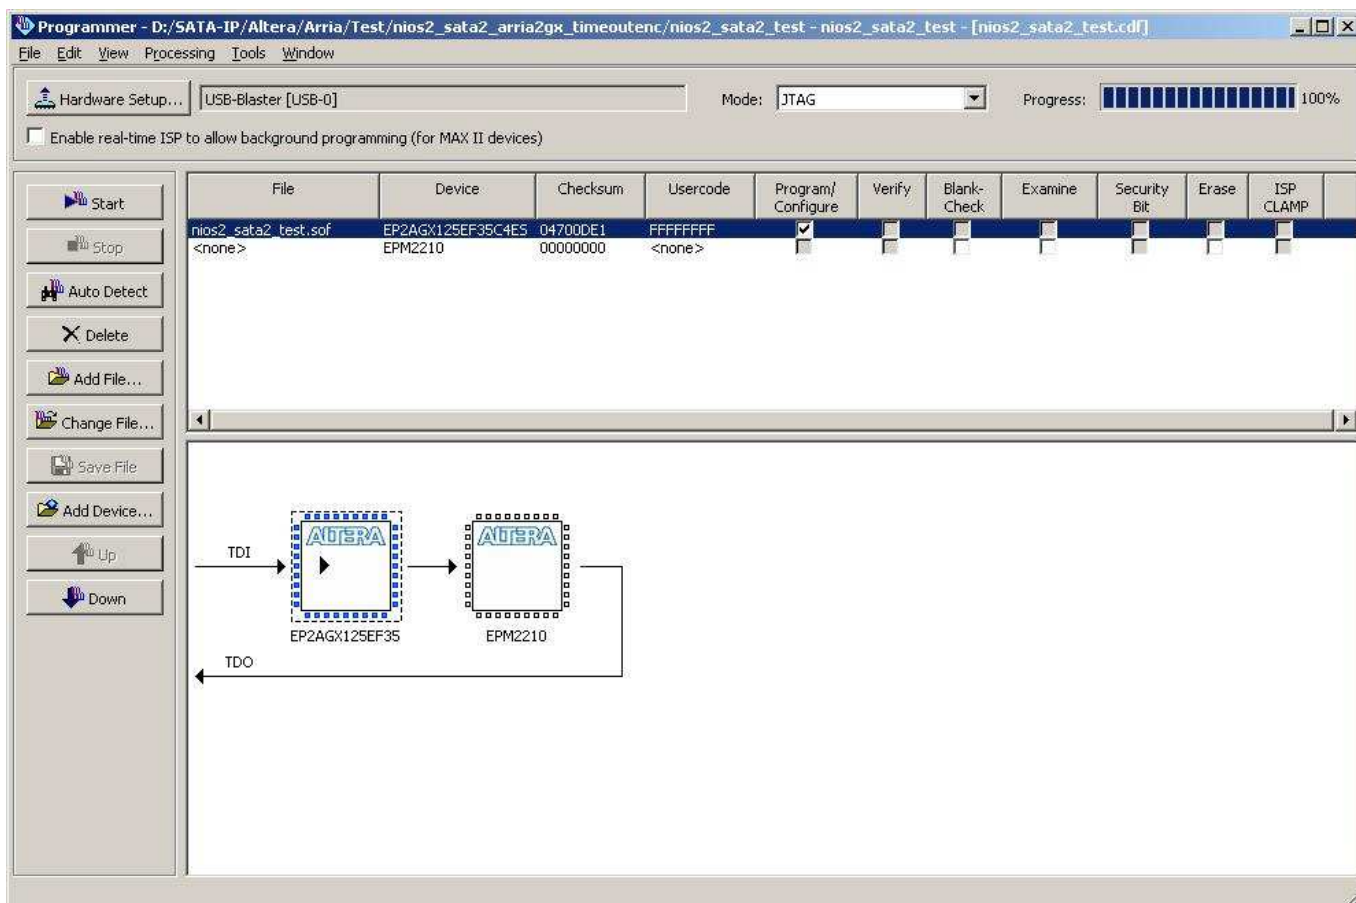

Figure 3 Programmer Environment
- Open Quartus Programmer and download “nios2_sata2_test.sof” to Arria II GX board, as shown in Figure 3.